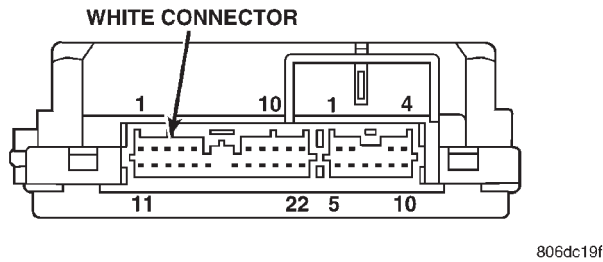

Fig. 7 Body Control Module 22-Way Connector
(9) Using an ohmmeter, check for continuity from terminal 7 of the J3 14-way connector to the terminal 15 of the intermittent wiper relay. If OK, go to Step 10. If not repair as necessary.
(10) Using a voltmeter, connect positive lead to terminal 10 of the BCM J1 22-way connector and negative lead to ground (Fig. 7). Turn ignition switch to the ON position. Slowly move the wiper switch from OFF position through each position to HIGH.